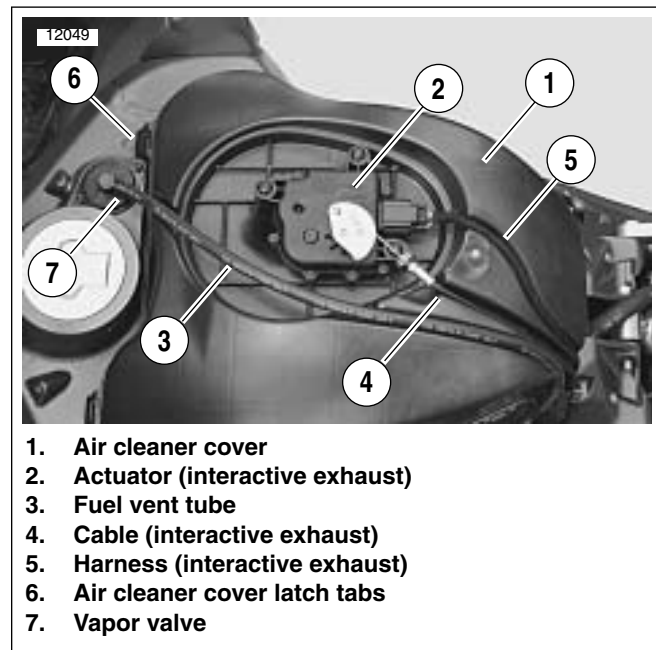
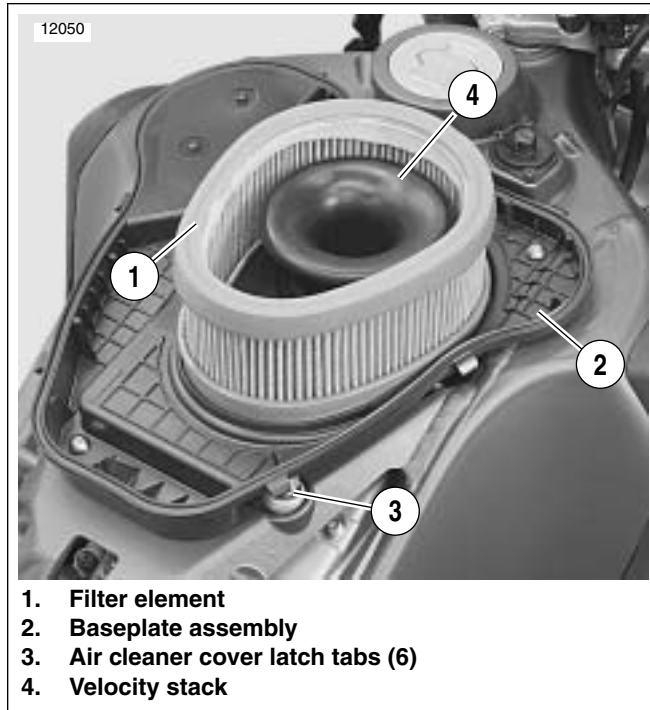

Figure 1-44. Air Cleaner Cover, Fuel Vent Tube and Fuel Vapor Valve
Figure 1-45. Installed Air Cleaner Filter Element
3. See Figure 1-44. Remove fuel vent tube (3) from vapor valve at front of air cleaner cover and groove on top of air cleaner cover (1).
4. Unlatch six latching tabs (6) and remove air cleaner cover from baseplate.
5. See Figure 1-45. Remove the filter element (1) from baseplate (2). Inspect and replace if necessary.
See Figure 1-45. Cover the velocity stack so nothing can drop into the motor.
1. See Figure 1-45. Place filter element (1) on baseplate (2).
3. Install air cleaner cover by latching six latch tabs (3) to baseplate.
5. See Figure 1-44. Position fuel vent tube (3) in groove on top of air cleaner cover and connect to fuel vent valve (7). Secure vent tube to vent valve with **new** cable strap.